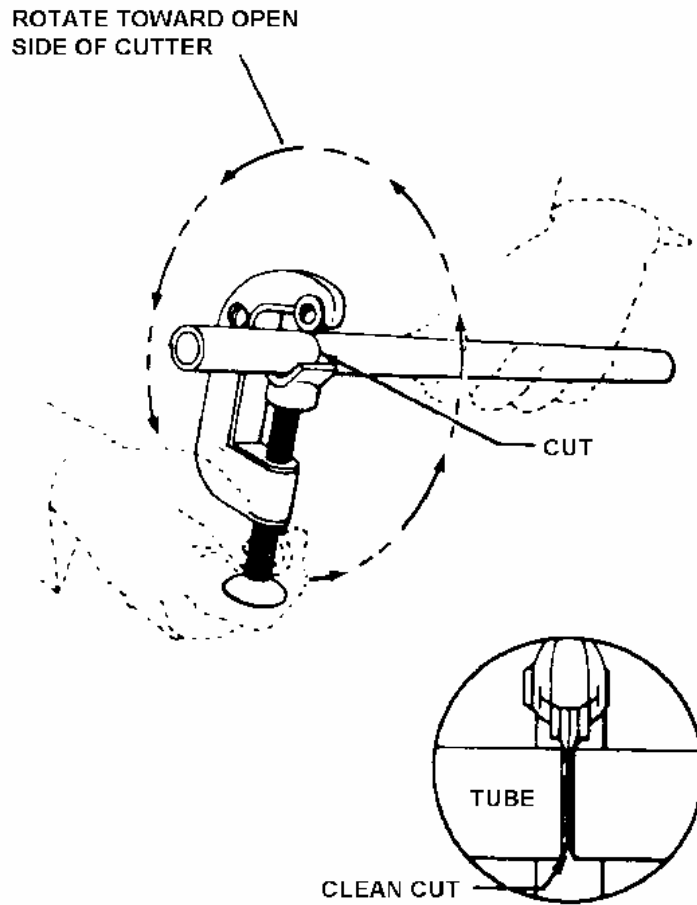

Figure 1. Tube Cutting
8. **TUBE CUTTING.** When cutting tubing, the objective is to produce a square end, free from burrs. Tubing shall be cut with a standard tube cutter (Figure 1), or the Permaswage chipless cutter described in WP011 00. To cut tubing, proceed as follows:
- c. Rotate cutter toward its open side (Figure 1).